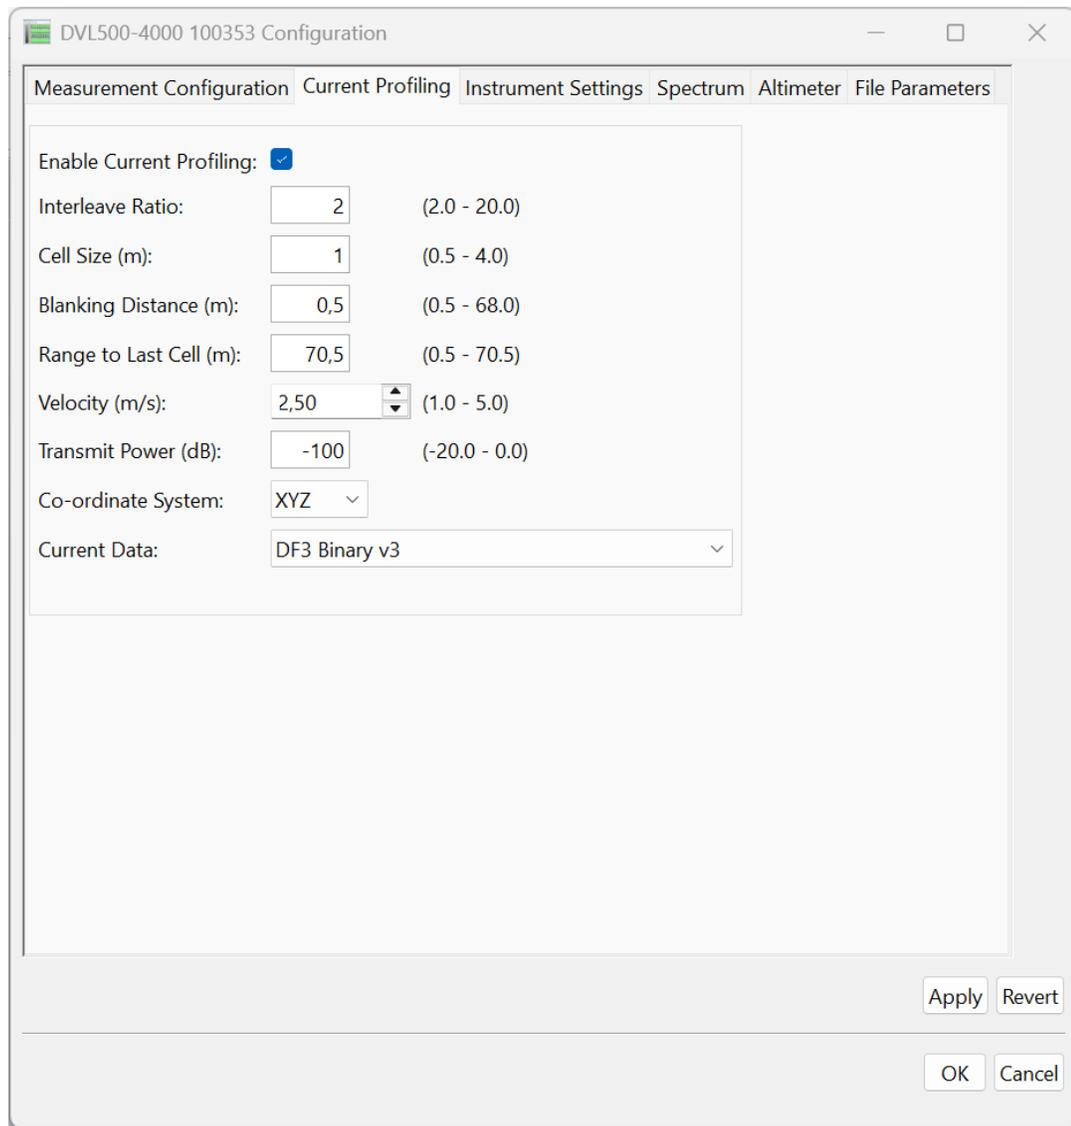

Figure 6: Midas Current Profiling Configuration
6. Configure the current profiling with the settings shown in figure 6. Current profiling will alternate with the bottom track when the interleave ratio is set to 2.